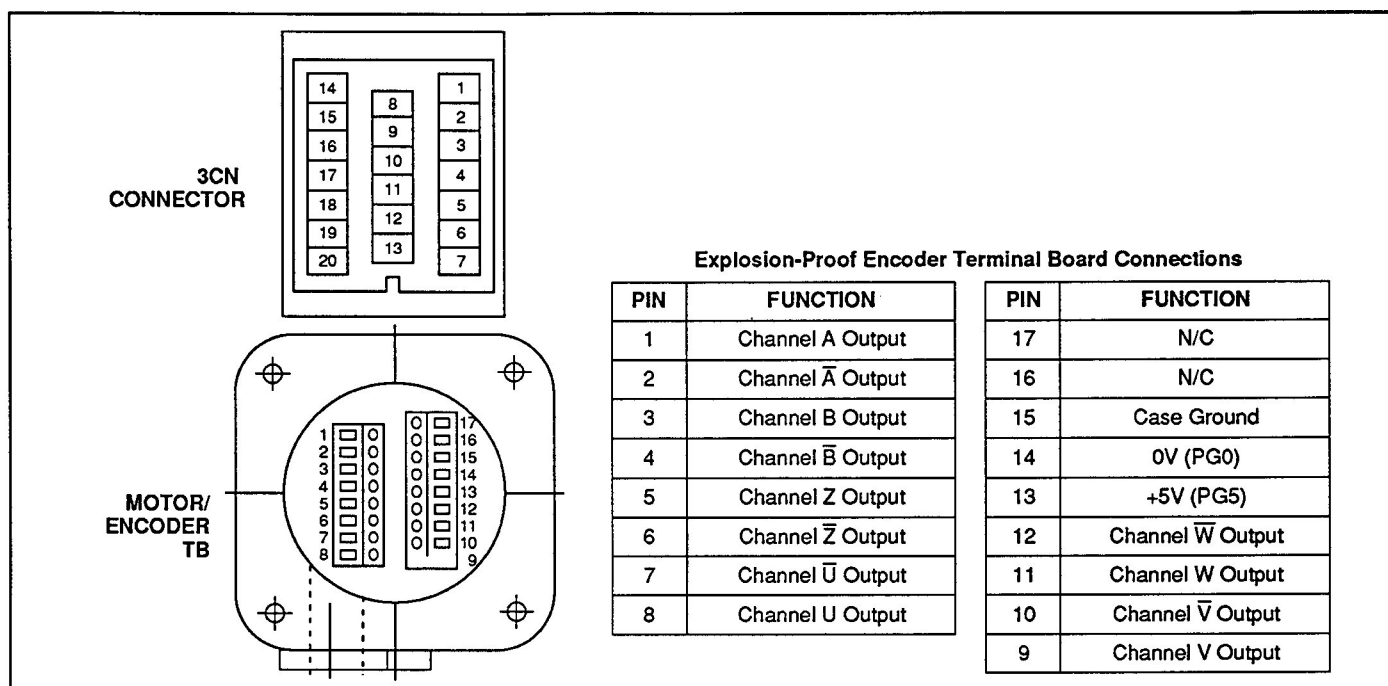

Figure 3-17. 3CN and Explosion-Proof Board Configuration.
Remove the keyed MS connector from the cable by cutting it off. Remove the encoder-end plate from the motor to expose the motor encoder terminal board as shown in Figure 3-17. Perform the wiring directions as follows.
- c. Connect each wire to the motor encoder terminal board. Refer to Figure 3-17 for connection details and Table 3-4 for a cross reference of functions and twisted pair color coding.